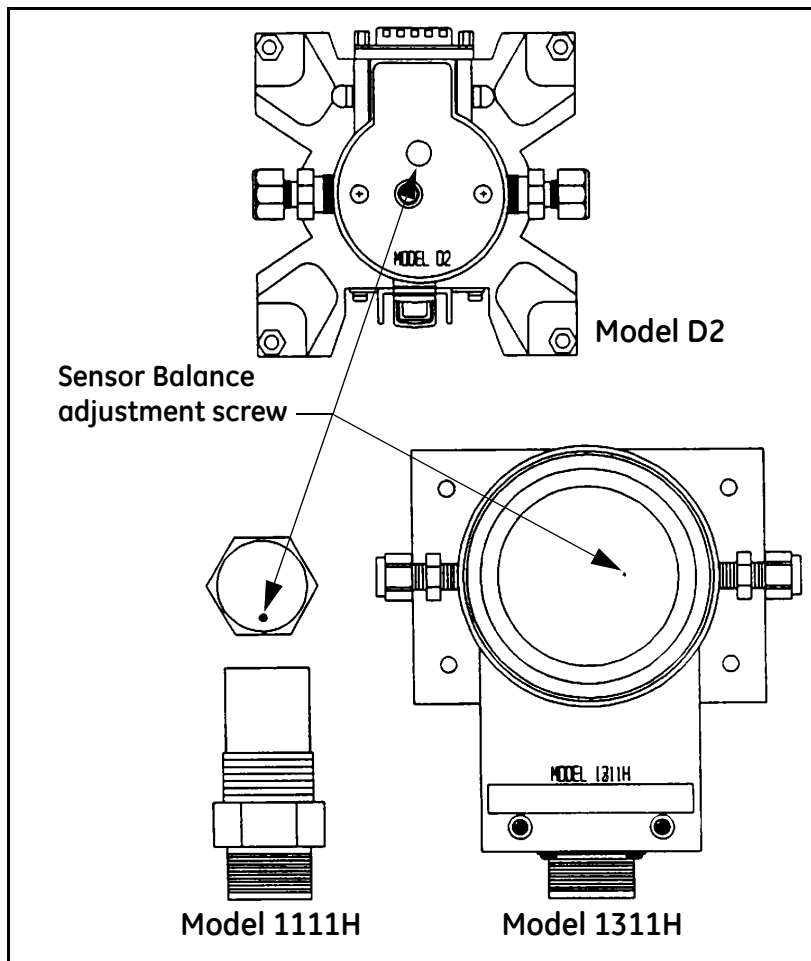

Figure 46: Balance Adjustment Screw Locations
5. If more than one bar segment or no bars are illuminated, use the screw or hex driver to adjust the optical bias screw (shown in *Figure 46* below) on the sensor until only one bar is illuminated. You are performing a coarse balance adjustment.